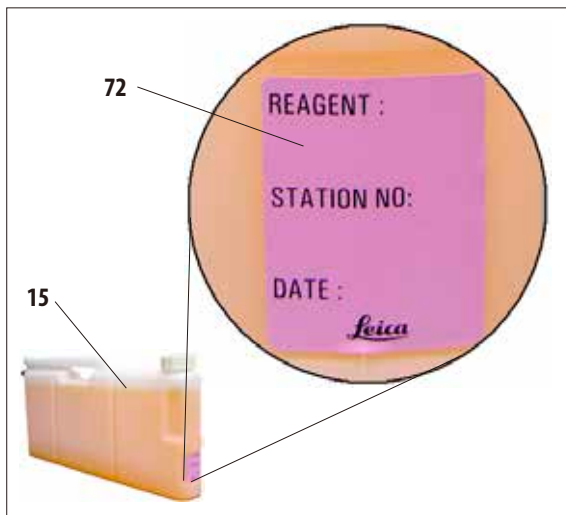

Fig. 55
The labels (72) are applied to the front of the system bottles (15) as shown in Fig. 55.
The station number can be noted on the label as well as the date when the reagent specified in the color table was commissioned (Fig. 55).